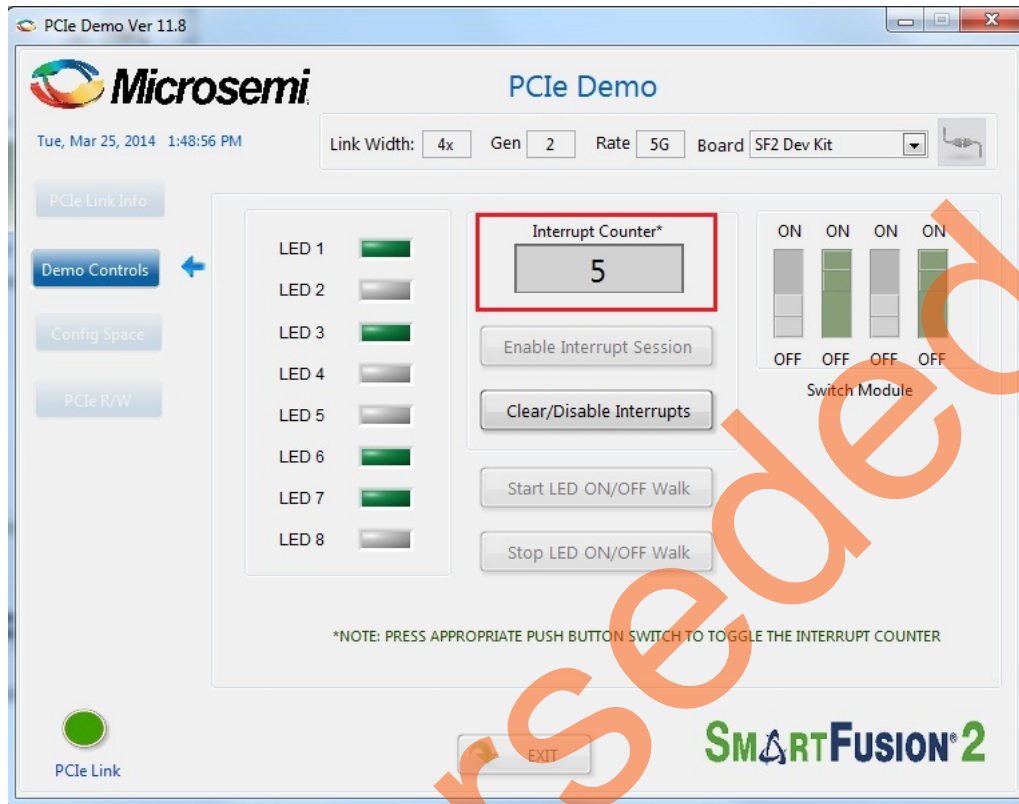

Figure 66 • Interrupt Counter
10. Press the push button SW3 on the SmartFusion2 Development Kit and observe the interrupt count on the **Interrupt Counter** field in GUI as shown in Figure 66.